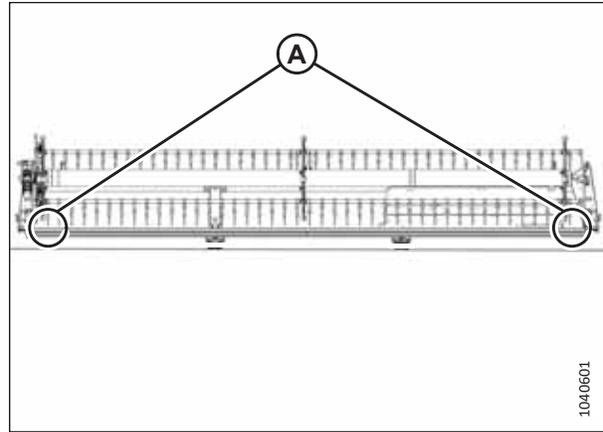

Figure 5.125: Single-Reel Measurement Locations
- Figure 5.125, page 272 – single reel